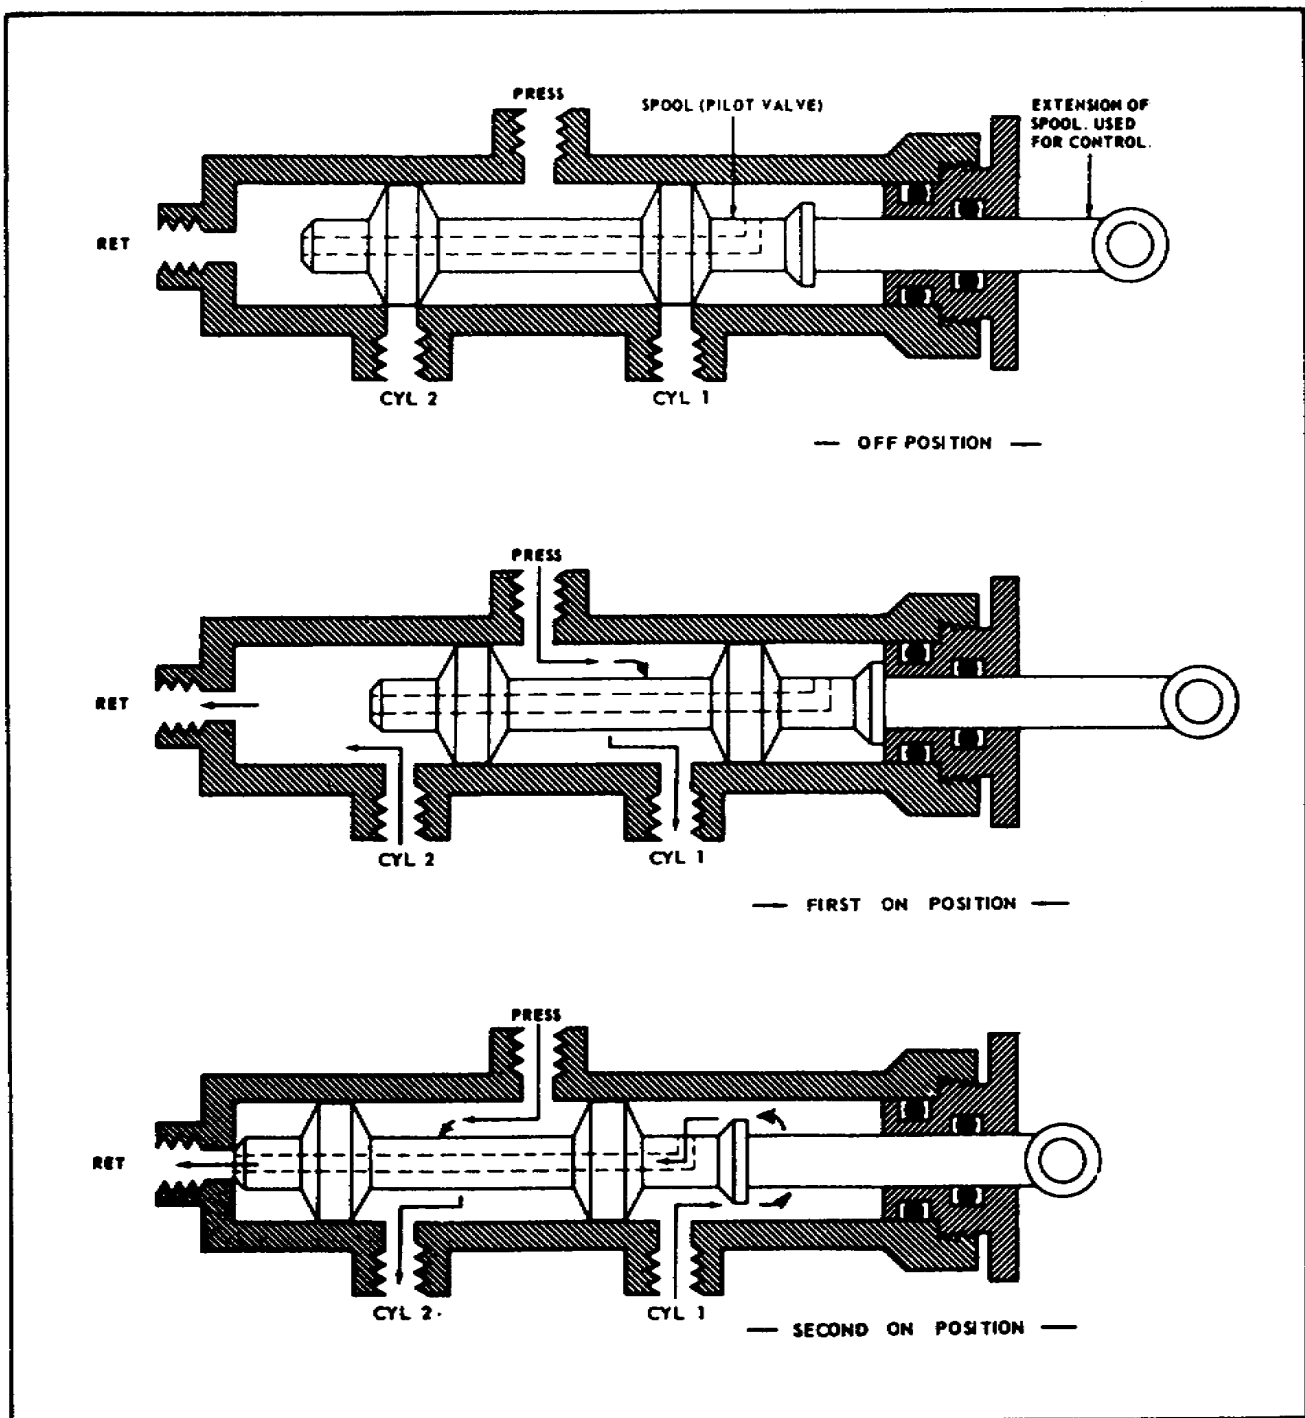

Figure 2-4. Typical Spool Closed-Center Selector Valve.
- The spool-type, closed-center selector valve, is shown in Figure 2-4. This valve has a housing containing four ports and a spool (pilot valve). The spool is made from a round shaft having machined sections forming spaces to allow hydraulic fluid to pass. A drilled passage in the spool interconnects the two end chambers of the selector valve. The large diameters of the spool are the bearing and sealing surfaces and are called "lands" (see Glossary). In operation, the spool valve is identical to the rotor type.